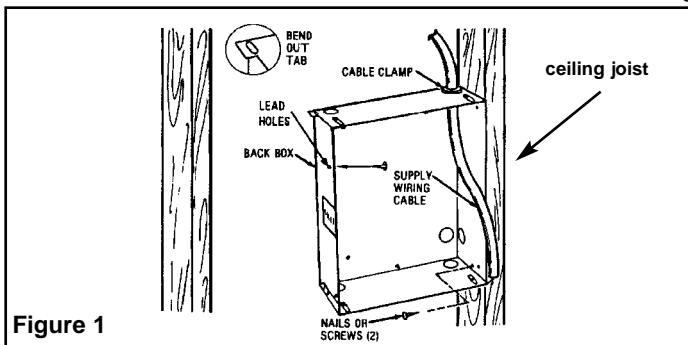

Figure 1
1. Determine which side of the back box is to be mounted against a joist and bend the tabs at the rear corners out 90 degrees so that the back box will be square with the joist after installation. (See Figure 1).
3. Position back box against side of joist and secure using nails or screws as shown in Figure 1.
**NOTE:** Lead holes for a #8 sheet metal screw have been provided in the sides of the back box. After the finished wall or ceiling has been put up, drive a # 8(m4) sheet metal screw (recommended 1") through the side of the box not mounted to the joist. This will prevent the back box from pulling out when installing the heater assembly. (See Figure 1)